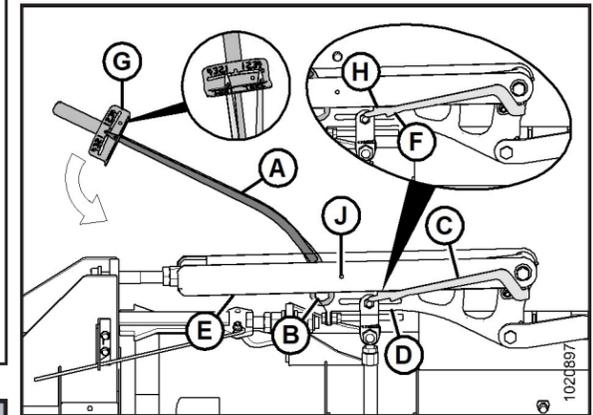

Figure 9: Wing Balance Linkage, Wings Set too Heavy – Left Side Shown, Right Opposite
- Move the wing downward with torque wrench (A) until the pointer's upper alignment tab (H) lines up with the lower edge of top-link (E). Refer to Figure 9. Record the reading on torque wrench indicator (G).